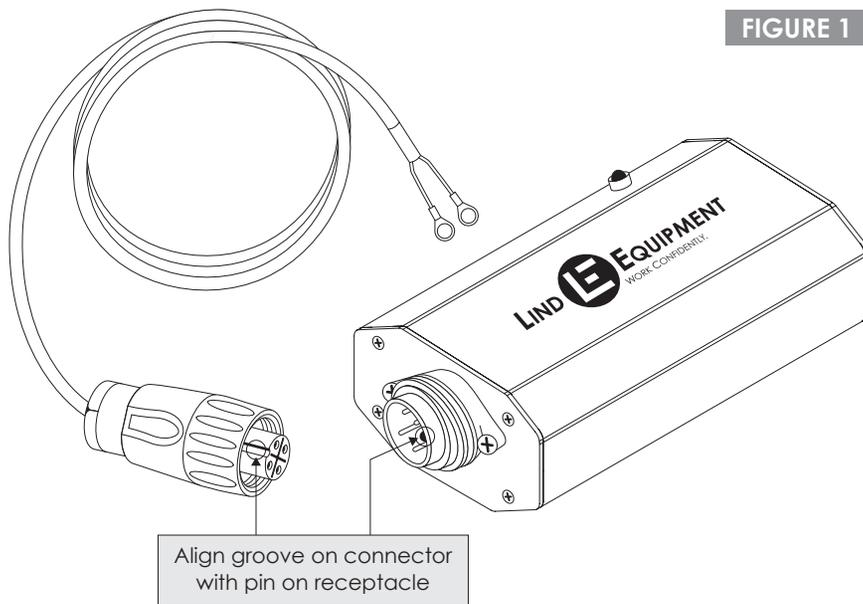

FIGURE 1
- + Plug each of the two (2) cables into opposite ends of the StaticSure device and tighten them securely.
- + Ensure that the ridge (FIGURE 1) on the device connector aligns with the groove in the cable connector prior to pushing and tightening.